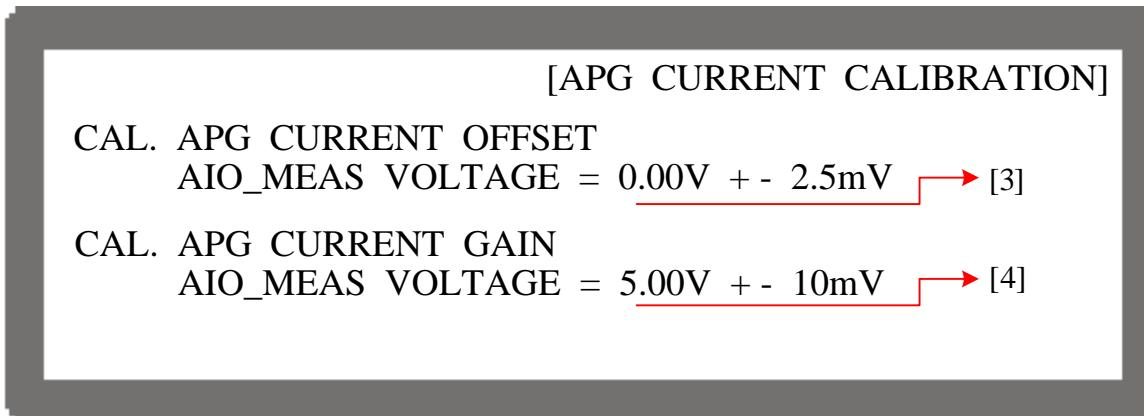

Figure 3-125
6. Press “” again the cursor stops at position [3] as Figure 3-125 shows. Open the device cover to find VR404 (adjustable resistor) on the PCB of 62xxxP-xx-xx C ver.x. Make the DVM2 reading of Pin6 to be $0.00V \pm 2.5mV$ by adjusting the resistance of VR404. Once the reading is adjusted correctly, press “” to confirm it.
7. Press “” again the cursor stops at position [4] as Figure 3-125 shows. The Electronic Load should set to CV mode with 5V loading and then open the device cover to find VR403 (adjustable resistor) on the PCB of 62xxxP-xx-xx C ver.x. Make the DVM2 reading of Pin6 to be $5.00V \pm 10mV$ by adjusting the resistance of VR403. Once the reading is adjusted correctly, press “” to confirm it and remove loading from the Electronic Load.